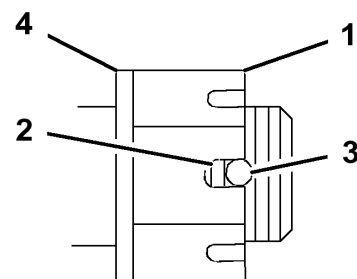

Figure 48
4. Torque the slotted nut to 125 ft-lb (170 N•m) (Figure 48).
5. Check the distance from bottom of slot in nut to inside edge of hole. Two threads or less should be showing (Figure 48).
7. Torque the slotted nut to 125 ft-lb. (170 N•m) (Figure 48).
8. Tighten the nut until the next set of slots line up with the hole in the shaft (Figure 48).